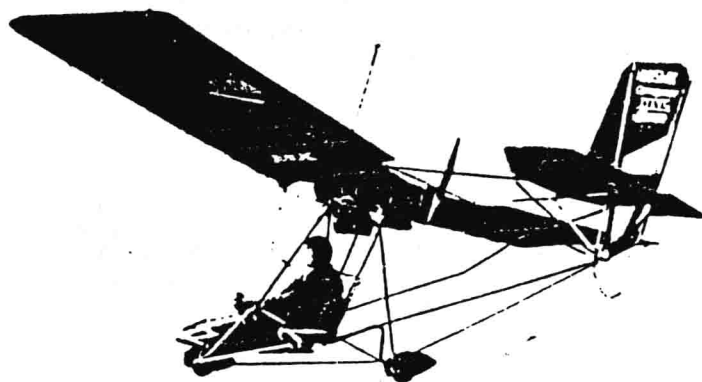

Figure 1. 2 An ultralight
**Category** Aircraft that use the same method of staying aloft and use similar means of propulsion are grouped into the same category. This is the broadest classification of aircraft. The FAA currently recognizes the four categories of aircraft shown in Figure 1. 1: lighter-than-air, rotorcraft, glider and airplane.
There is one type of airborne vehicle that is not recognized by the FAA. An ultralight is a lightweight, single-person, recreational aircraft like that shown in Figure 1. 2. The FAA defines these as "vehicles" and does not regulate their design or construction. You do not need a pilot's certificate to fly one.